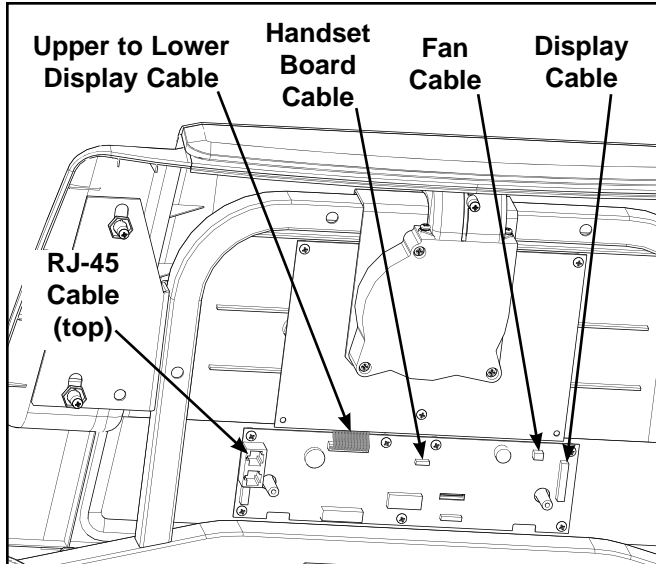

Figure 25
- B. Disconnect these cables from the lower display board: the upper to lower display cable, RJ-45 cable, handset board cable, display cable and the fan cable. See Figure 25.
- Disconnect the display cable from the display board. See Figure 25.
- Plug the display cable into the display board. See Figure 25.
- Connect these cables to the display board: the upper to lower display cable, RJ-45 cable, handset board cable, display cable and the fan cable. See Figure 25.